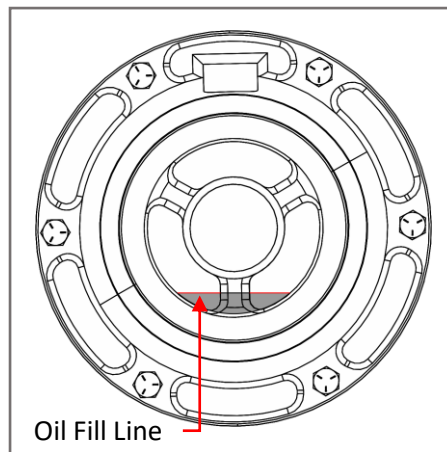

FIGURE 22. Fill to “Oil Level Line”
2. Add oil to the “Oil level” point on the surface of the Hub Cap (see Figure 22.).